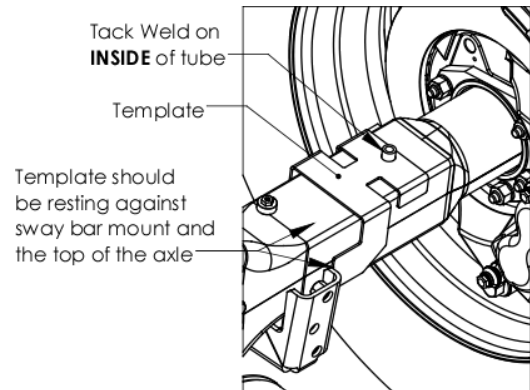
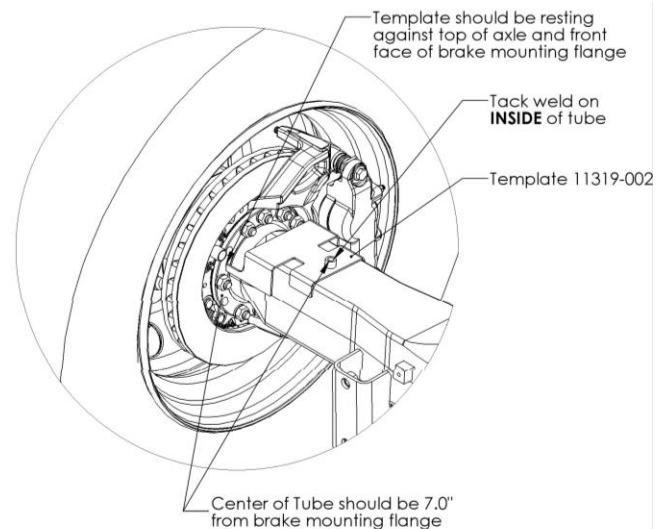

Figure 10. Tube Welding to Axle – DS150F53
Figure 11. Tube Welding to Axle – DS175F53
2. Place the Template on the axle. If you have a DS150F53 kit, see Figure 10 for proper placement. If you have a DS175F53 kit, see Figure 11.
5. Reattach the Template and Tube (10800-004) onto the axle as shown in Figure 10 or Figure 11, depending on which suspension kit you have.